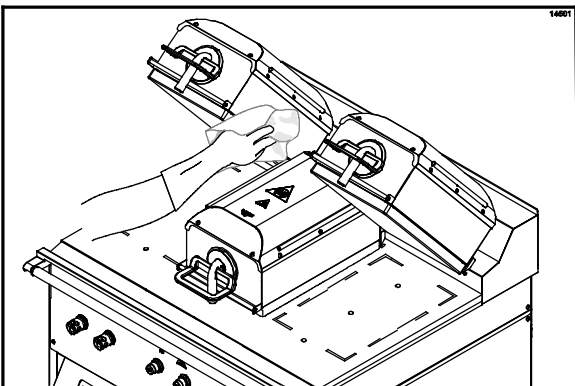

Figure 102
34. Rinse the inner edges of the right and left platens with a clean, sanitizer-soaked grill cloth. (See Figure 102.)